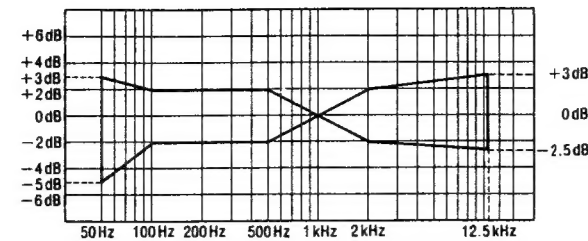

Fig.8
5. Playback the recorded signal and assure that it is within the range shown in Fig.8 in comparison to the reference frequency (1 kHz).